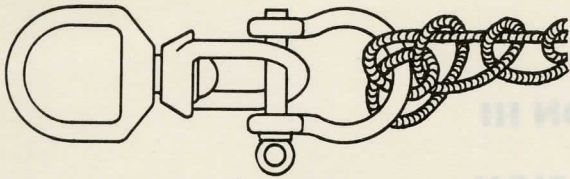

Figure 3-1. BT Cable Hitch
a. **THE CABLE HITCH.** Be sure that the cable is secured to the drum in such a manner that it cannot pull loose if all the cable should pay off the drum. As an additional precaution, never pay out the last layer of cable on the drum when lowering the BT. The cable should be wound on the drum so that it pays out and reels in at the top of the drum. Run the free end of the cable through the counterbalanced towing block, and fasten to the shackle using the cable hitch shown in figure 3-1. Be sure that the hitch is as neat and streamlined as possible. Serve the hitch. Attach the shackle to the swivel on the BT. Make sure that the swivel works freely.
b. **THE HAND LEVER.** The hand lever on the hoist serves as both brake and clutch. It has three positions: (1) When it is vertical, the hoist is in neutral and the drum can be turned freely in either direction; (2) When it is pushed outboard, or away from the operator, to the engaged or hoist position, the motor turns the drum and reels in the cable; (3) When the lever is pulled inboard, or towards the operator, to the brake position, the drum is locked and cannot be turned.